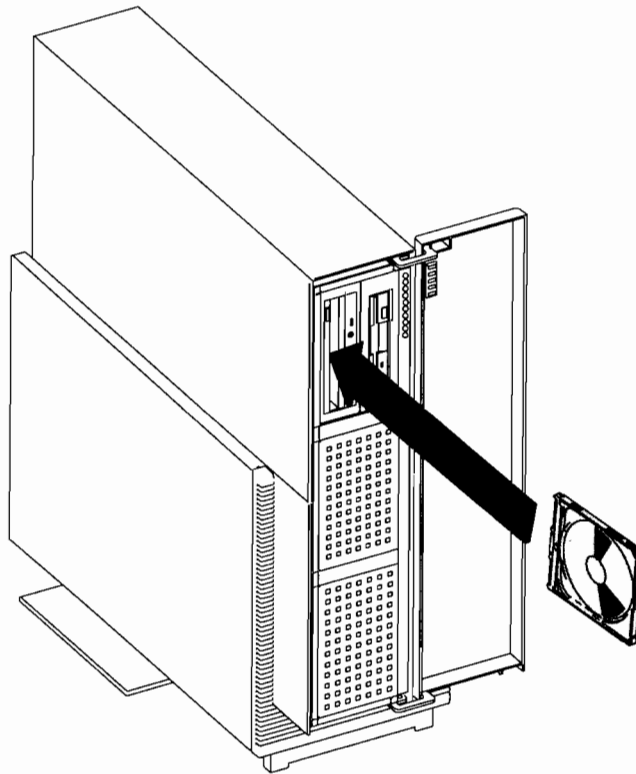

Figure 6-3. Inserting a CD-ROM Disc Caddy
2. Open the caddy loading door and carefully insert the disc caddy in the direction of the arrow about three-quarters of the way into the loading slot until you hear a click, as shown in Figure 6-3. The drive then automatically pulls the caddy the rest of the way into the slot.